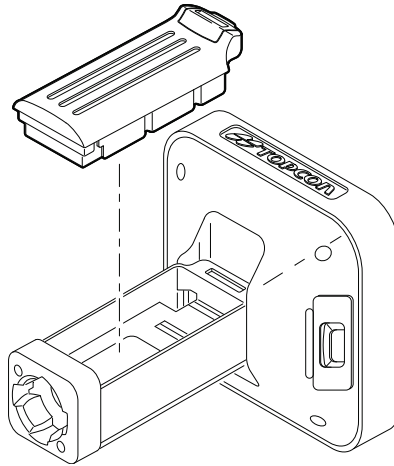

Figure 13: Inserting the GR-5 Batteries
To attach the batteries to the GR-5 (Figure 13):
4. Insert the AA battery shell into the battery compartment of the receiver as shown in Figure 13 on page 4-38.